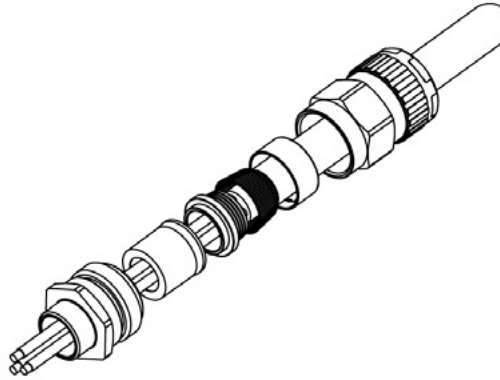

Figure 13. Example of cable gland
1. Remove the bolt cover plate (Figure 13).